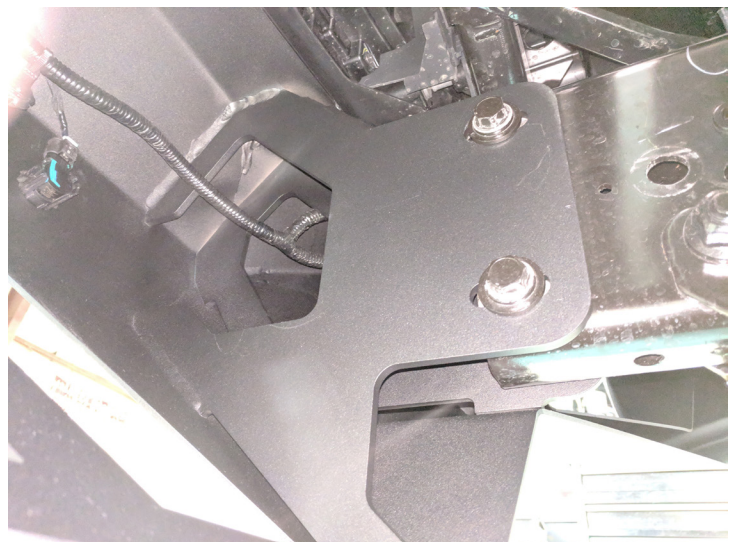

Figure 23
23. With assistance, support the bumper up to the frame rail and insert the four factory bumper bolts with the factory nut. (Figure 23)